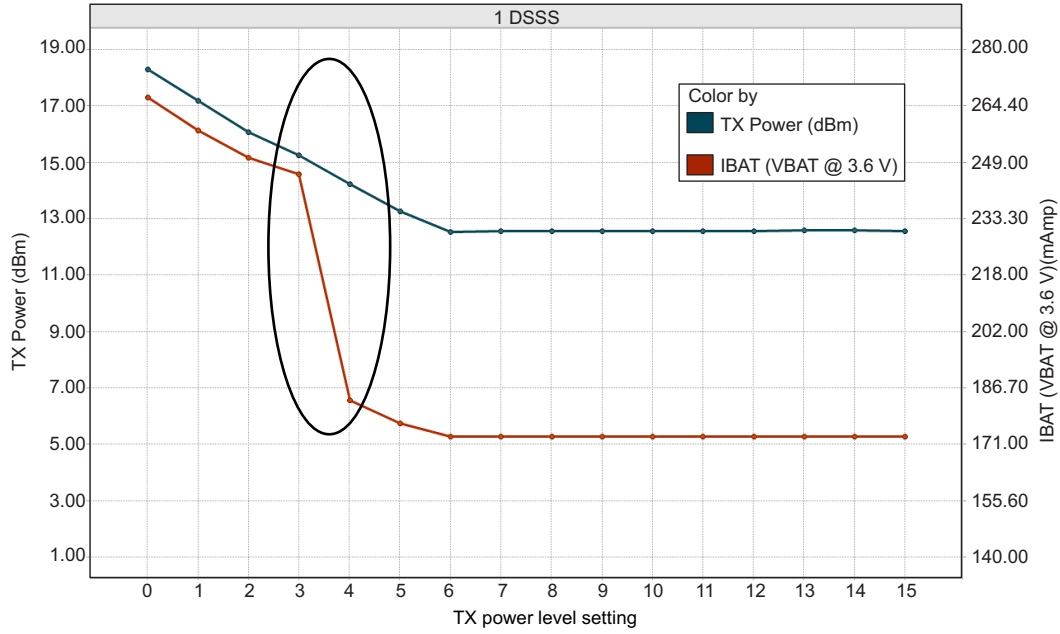
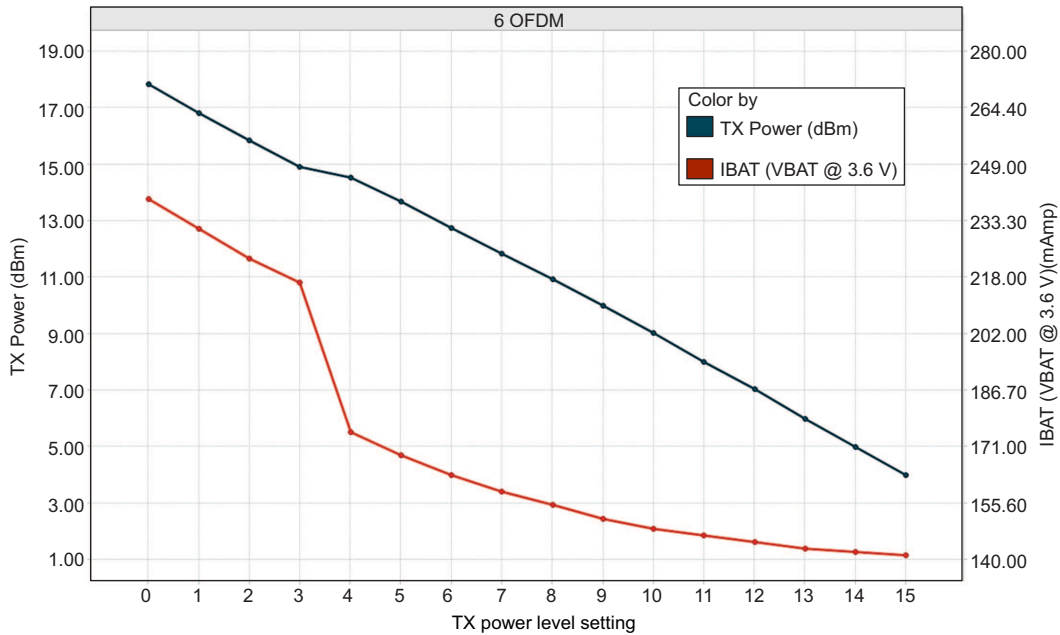
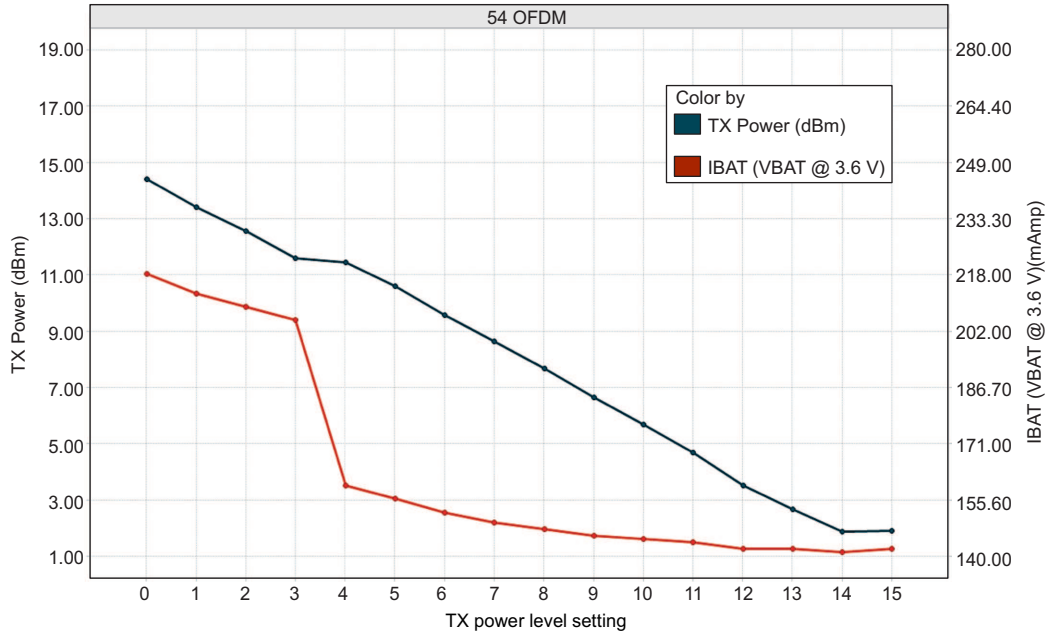

Figure 5-1. TX Power and IBAT vs TX Power Level Settings (1 DSSS)
Figure 5-2. TX Power and IBAT vs TX Power Level Settings (6 OFDM)
Figure 5-3. TX Power and IBAT vs TX Power Level Settings (54 OFDM)
- (1) TX power level = 0 implies maximum power (see Figure 5-1, Figure 5-2, and Figure 5-3). TX power level = 4 implies output power backed off approximately 4 dB.
- (2) The CC3235x system is a constant power-source system. The active current numbers scale based on the V_{BAT} voltage supplied.
- (3) Typical numbers assume a VSWR of 1.5:1.
- (4) DTIM = 1
- (5) LPDS current does not include the external serial flash. The LPDS number of reported is with retention of 256KB of MCU SRAM. The CC3235x device can be configured to retain 0KB, 64KB, 128KB, 192KB, or 256KB of SRAM in LPDS. Each 64-KB block of MCU retained SRAM increases LPDS current by 4 µA.
- (6) The complete calibration can take up to 17 mJ of energy from the battery over a period of 24 ms. Calibration is performed sparingly, typically when coming out of HIBERNATE and only if temperature has changed by more than 20°C. The calibration event can be controlled by a configuration file in the serial flash.
Figure 5-1, Figure 5-2, and Figure 5-3 show TX power and IBAT versus TX power level settings for the CC3235S device at modulations of 1 DSSS, 6 OFDM, and 54 OFDM, respectively. For the CC3235SF device, the IBAT current has an increase of approximately 10 mA to 15 mA depending on the transmitted rate. The TX power level will remain the same.
In Figure 5-1, the area enclosed in the circle represents a significant reduction in current during transition from TX power level 3 to level 4. In the case of lower range requirements (14-dBm output power), TI recommends using TX power level 4 to reduce the current.